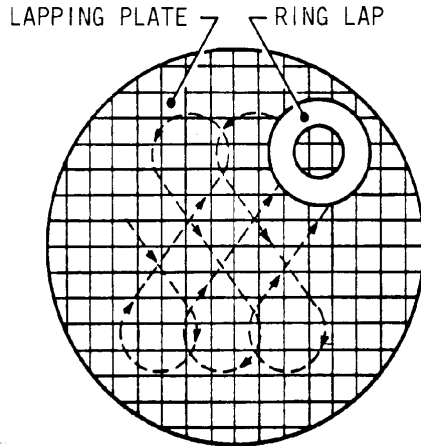

FIGURE 27
1. Ring laps are reconditioned by lapping them on a flat lapping plate. The lapping should be done with a figure-eight motion as indicated in Figure 27, below. To assure the best results when lapping seats, the ring laps should be reconditioned after each usage and checked with an optical flat.